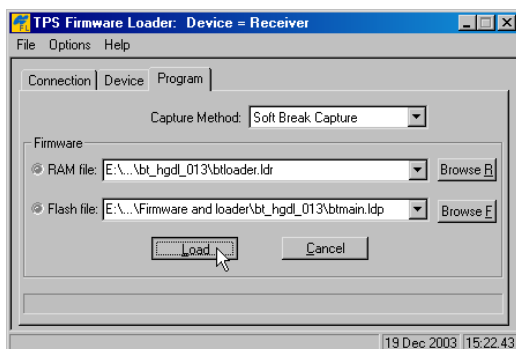

Figure 5-24. Program Tab Settings
2. Click the **Program** tab and set the *Capture Method* to “Soft Break Capture” (recommended) (Figure 5-24 on page 5-22).
3. Browse for and select the Bluetooth module’s RAM file and Flash file (Figure 5-24 on page 5-22).